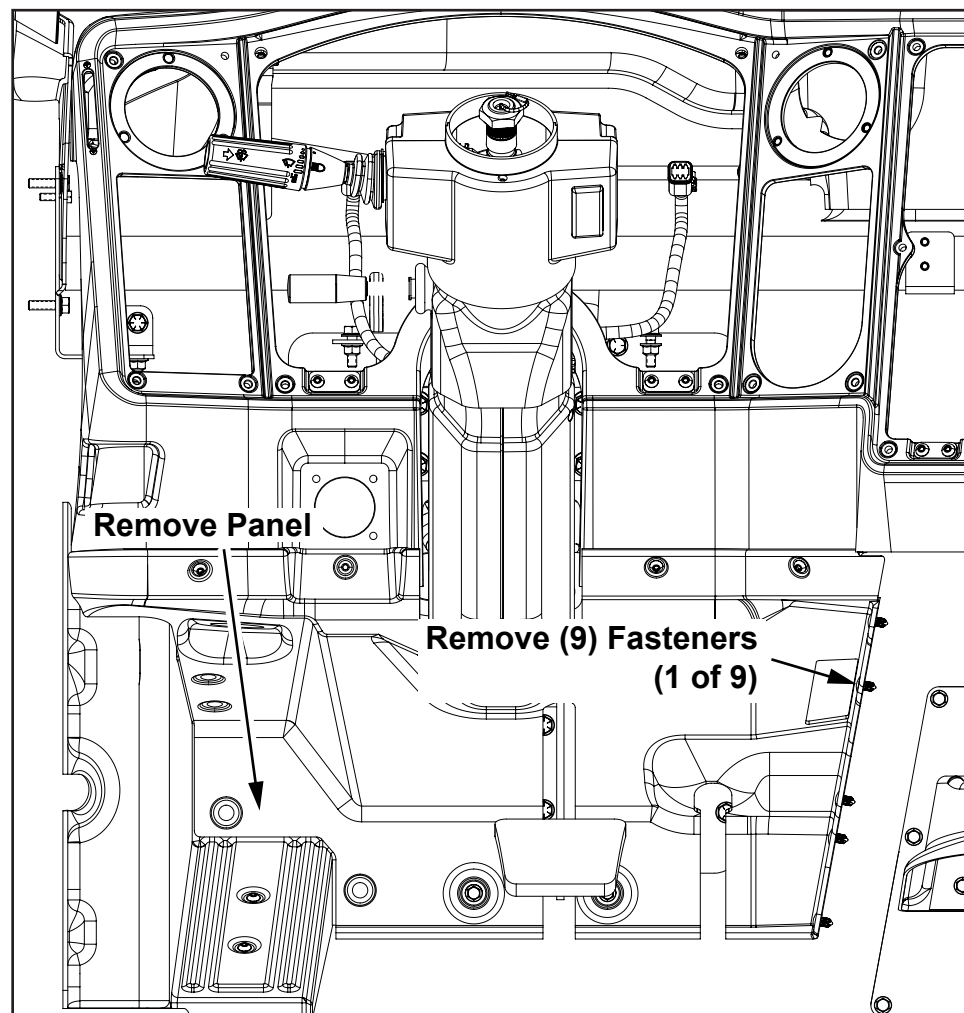

Figure 1
2. Remove the screws from the upper and lower covers of the steering column and set aside for reinstallation (see Figure 1).
3. Using a Trim panel removal tool, remove and discard (9) plastic fasteners from the lower closeout panel (see Figure 1).